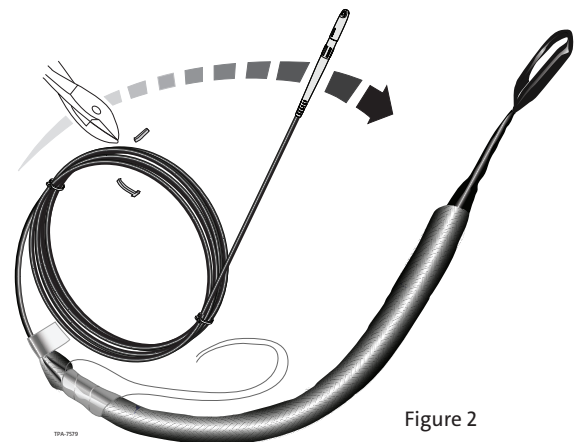

Figure 2
**WARNING:** Unrestrained cable ends may cause injury to your eyes or body and damage the cable, connector, or fibers if suddenly released from a coil. Wear eye protection and use extreme care when handling a coiled cable assembly which uses drop cable - gently release the energy stored in the cable coil to avoid possible personal injury or damage to the cable or connector components. (Figure 2).